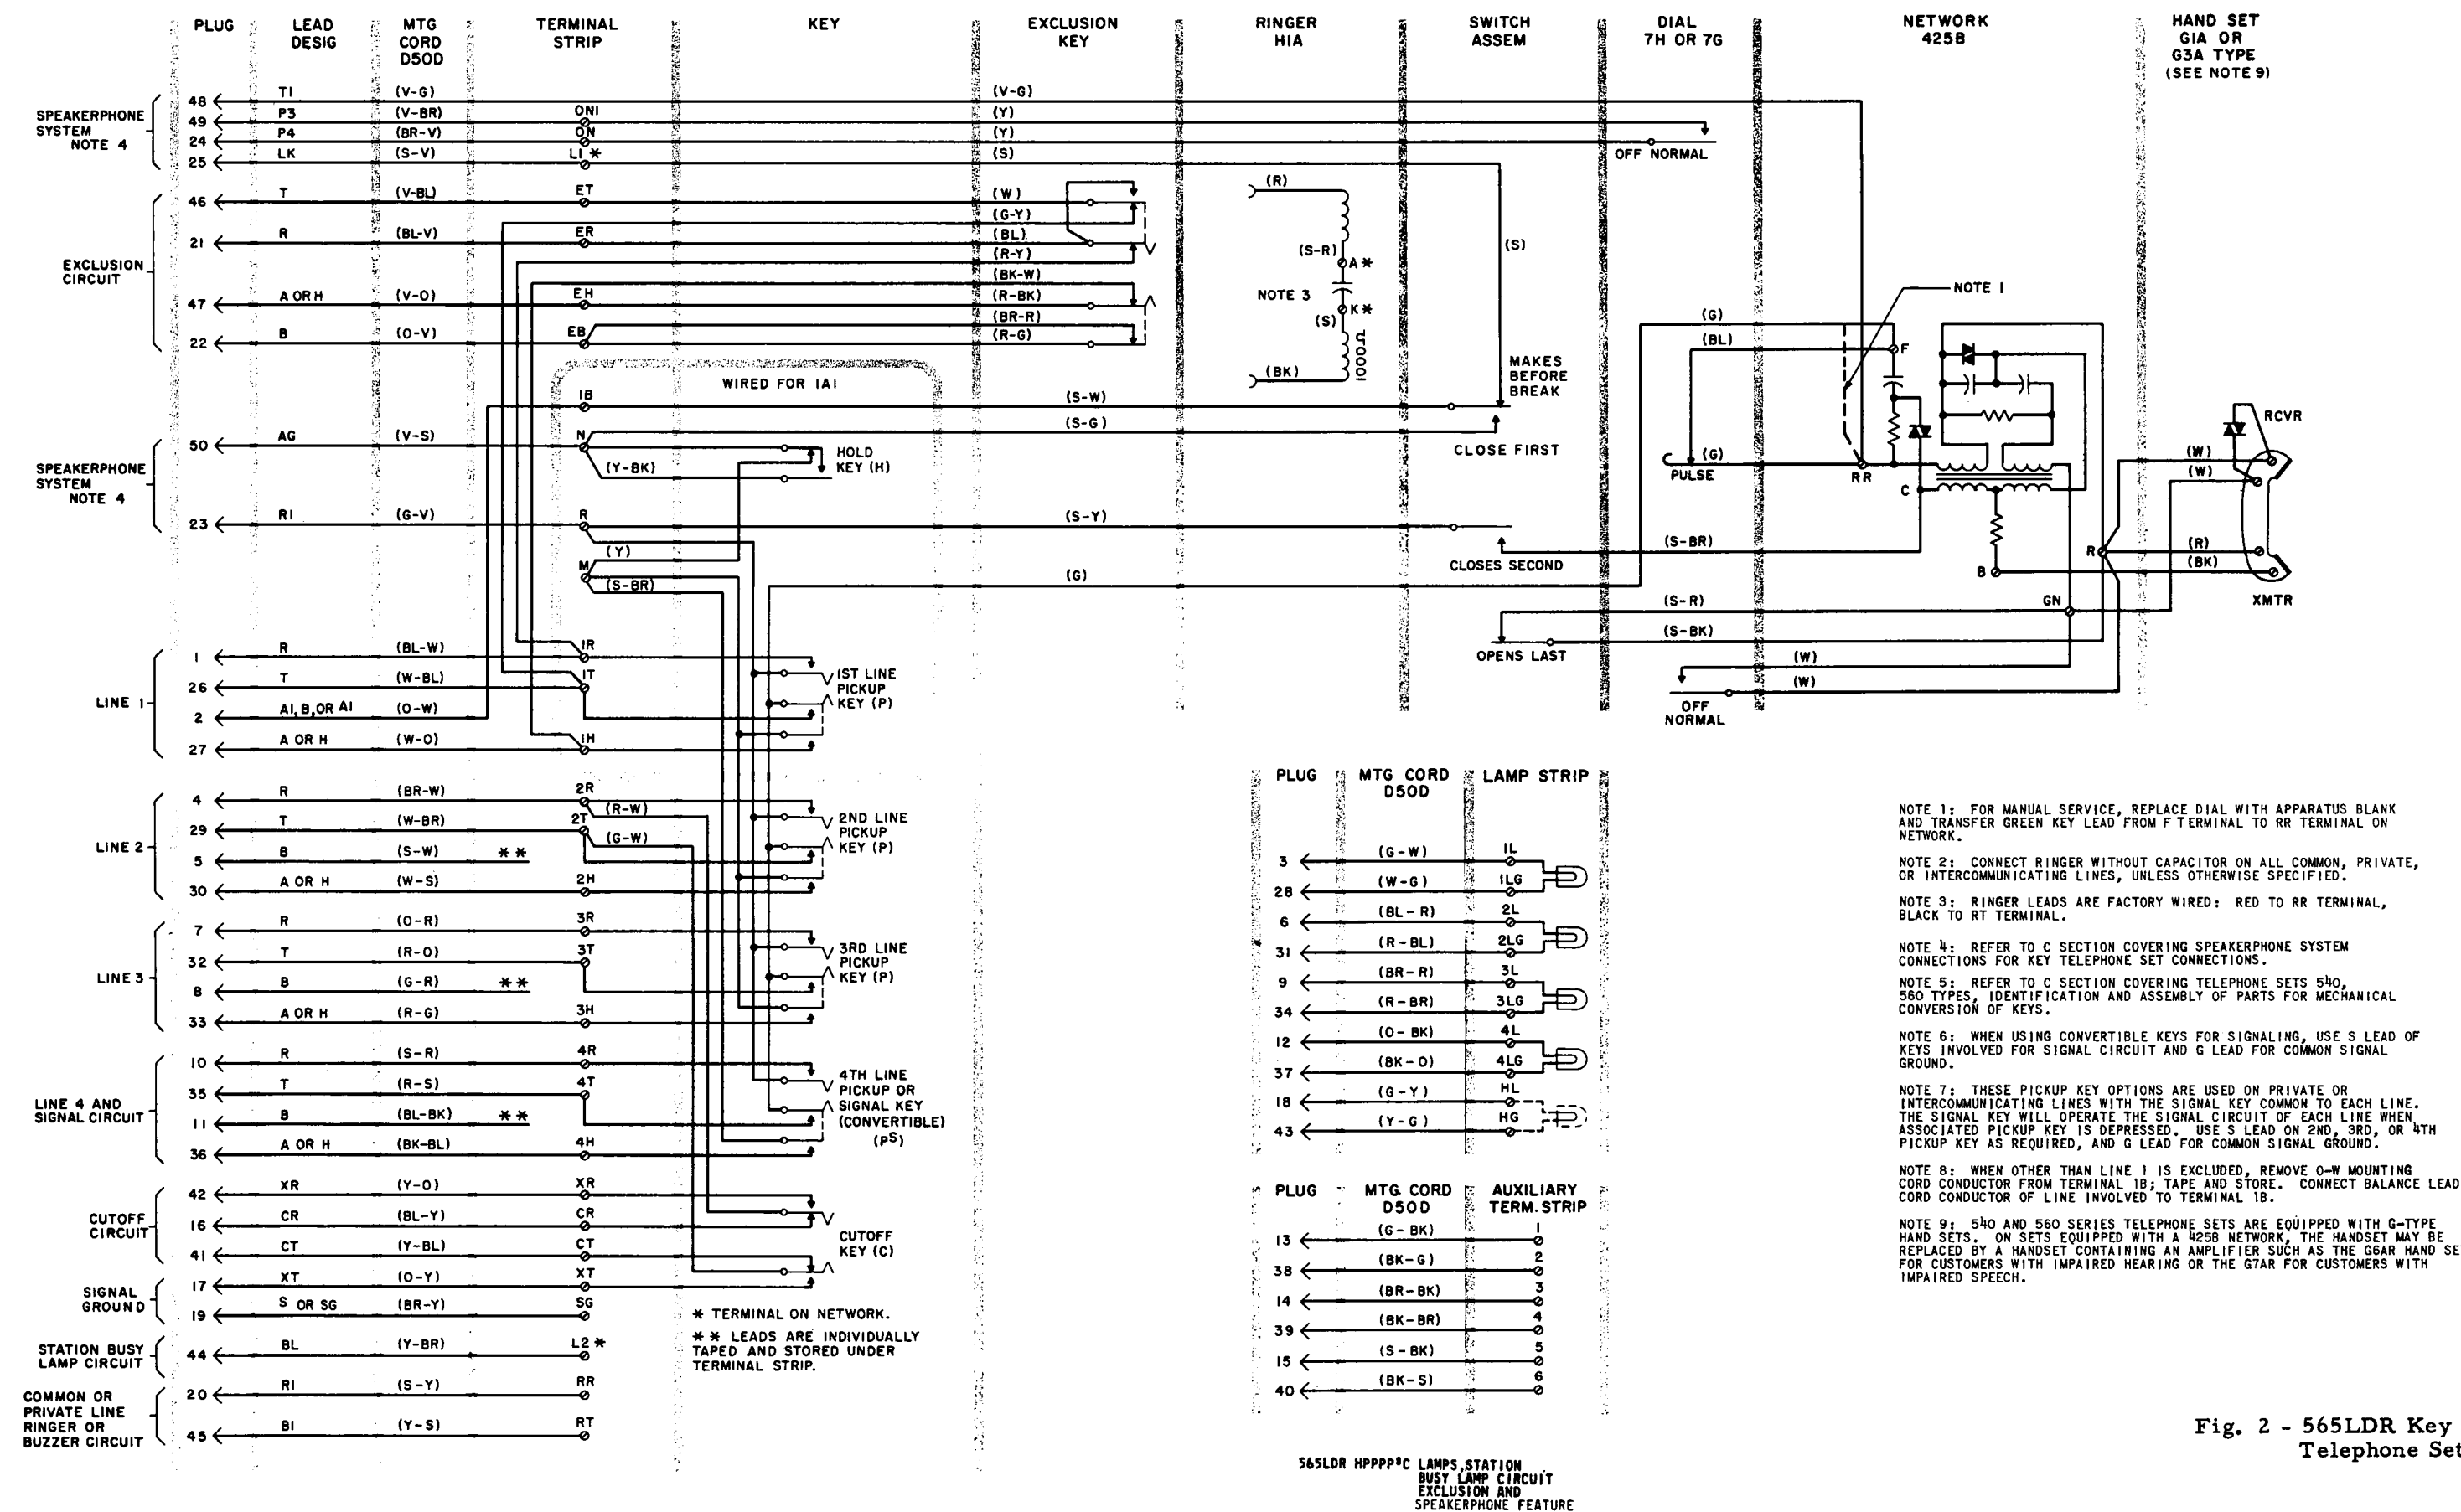

Fig. 2 - 565LDR Key Telephone Set
- Change switch assembly in Fig. 2.
- Renumber the Notes in Fig. 2.